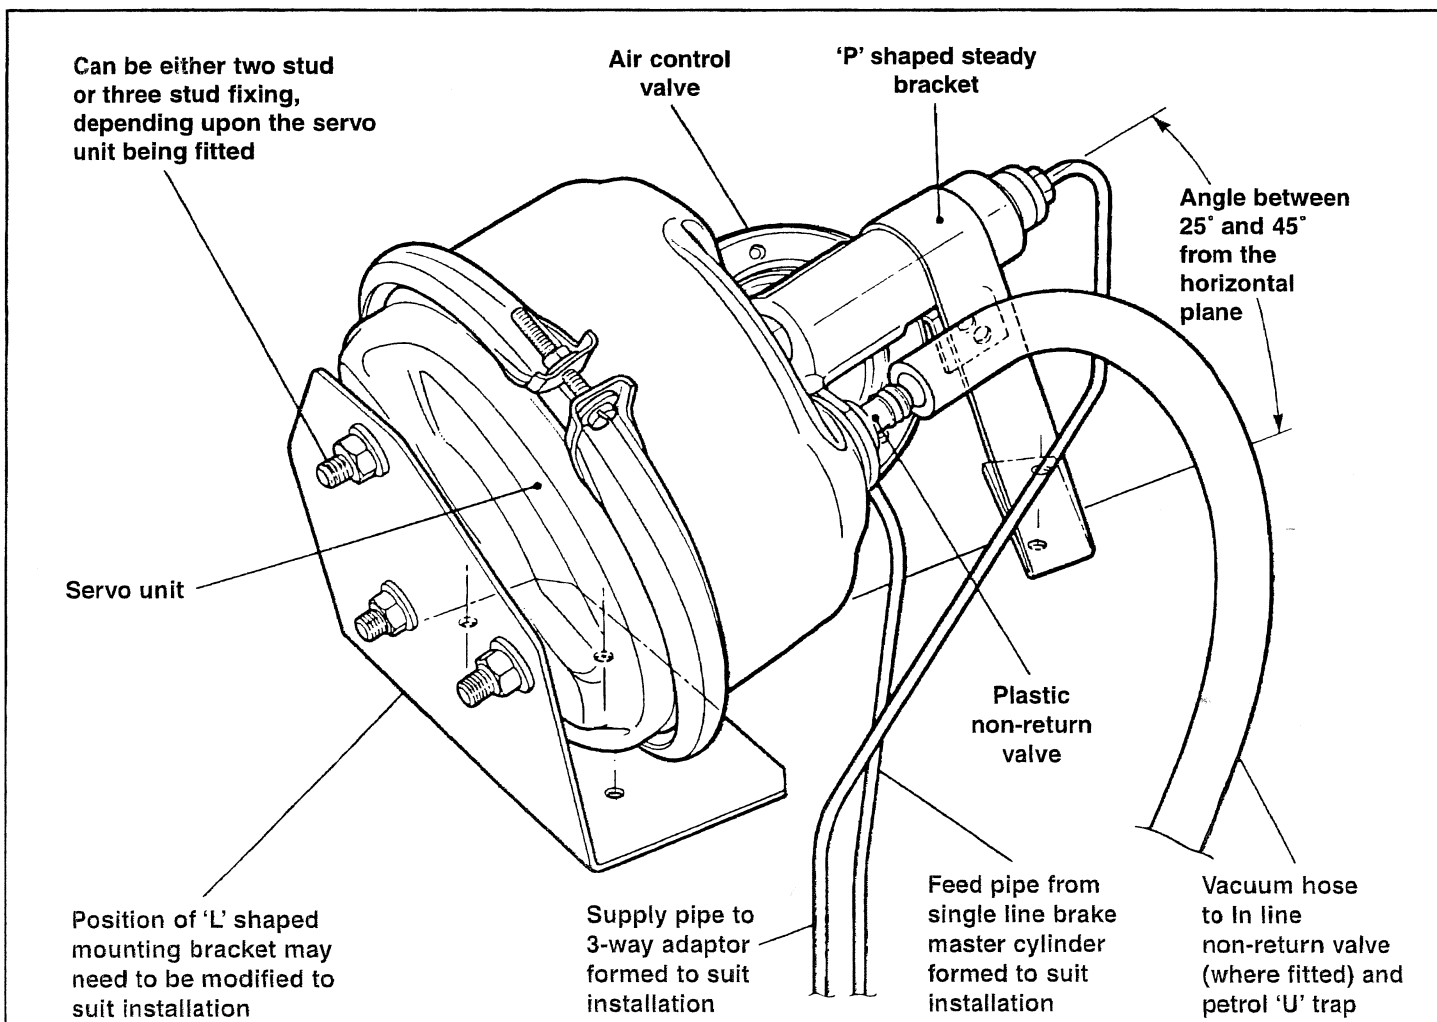
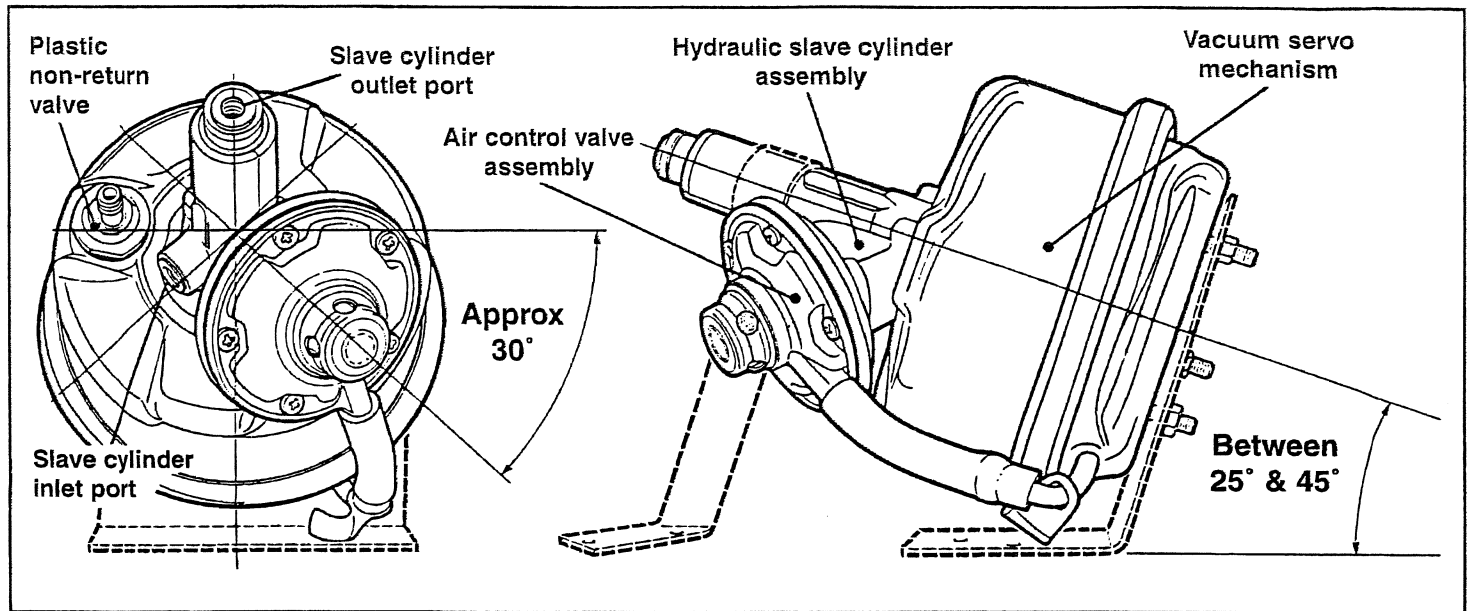

Fig 2
Fig.3
5. With the aid of the mounting brackets and fixings provided in the kit install the servo unit with the hydraulic slave cylinder outlet port **inclined upwards between 25° and 45° from the horizontal plane**. **(See Fig.2)**. The air control valve should be situated **at least 30° below the centre line** to assist when bleeding the hydraulic system. **(See Fig.3)**.